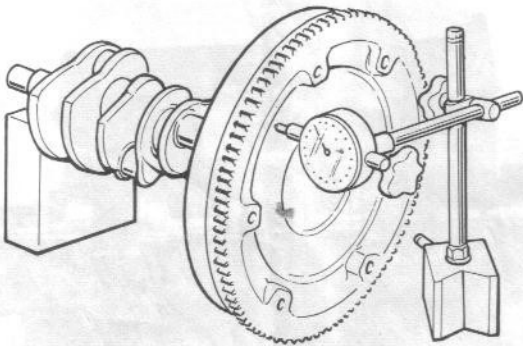

Fig. 4-97
- Check the flywheel for face runout with a dial gauge, as shown in Fig. 4-97. Be sure that the runout is within the limit.